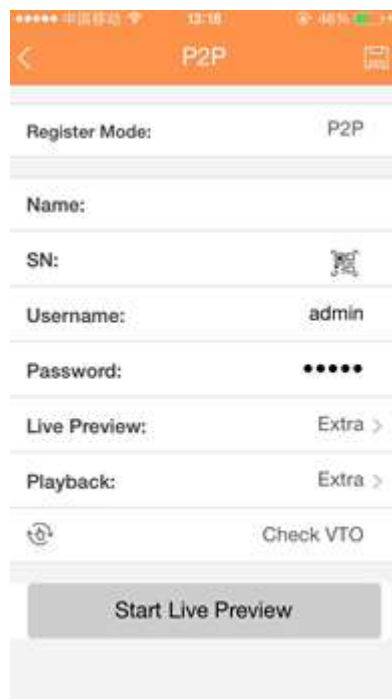

Figure 4-27
Step 4 Tap Device manager button, you can use several modes (P2P/DDNS/IP and etc.) to add the device. Click  to save current setup. Tap Start Live preview to view all-channel video from the connected device. See Figure 4-27.